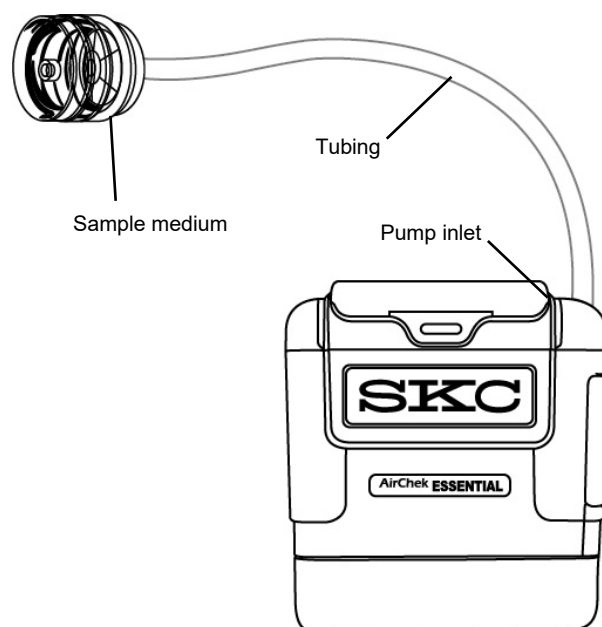

Figure 6. Sampling Train (high flow)
2. Set up the sampling train. See Figure 6.